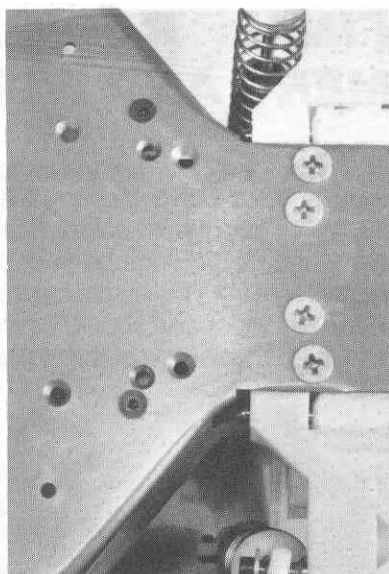

Fig. 169
□ **Fig. 169** Install the servo to the chassis. Mounting holes are typical for S27 servo.